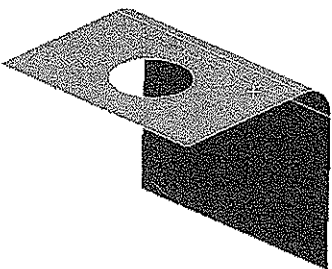

Figure 8-52 Selected surface body in the Graphics screen
- Choose the **Body** tool from the **Select** toolbar and then select the body, as shown in Figure 8-52.